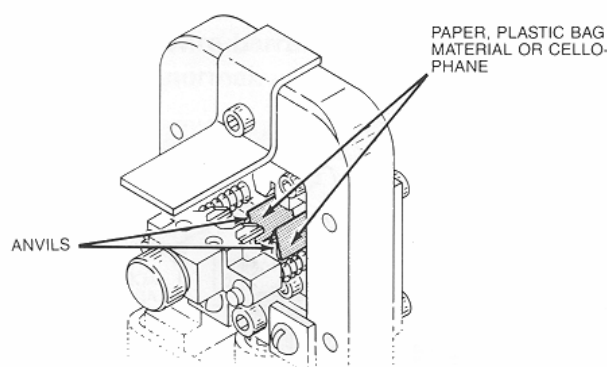

Figure 11
- Cut out two strips of protective material. Then fold the strips in half and place them over the anvils (see Figure 11).